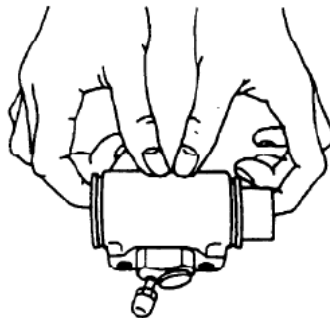

Fig. 2-16
(7) Remove the boot and push the piston assembly out of the operating cylinder. (See Fig. 2-16)